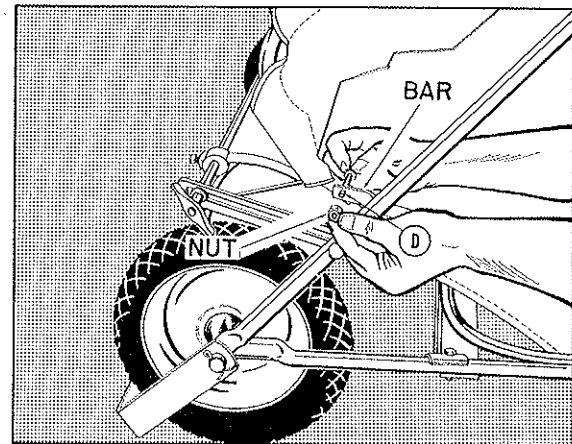

Fig. 3
6. Remove nut at Point D on lower basket frame at front, Fig. 3. Position end of long straight bar (basket brace) onto bolt and replace nut. Assemble opposite bar (basket brace) the same and tighten nuts. (Turn to Basket Assembly, Fig. 3 in parts list, for assembled view).
Maintenance. Place a few drops of oil into the two oilers which are located on each side plate, Ref. Nos. 7 and 17 of Fig. 1, every time the machine is used. The wheels and casters should be lubricated at the same time. A drop or two of oil should also be applied occasionally to the basket pivot block, Ref. No. 26, Fig. 3.
2. Remove cap screws & clamps items 8 & 24 Fig. 3 which hold the brush strips to the reel shaft brackets. Reverse and replace the brush strip and clamps, then retighten the cap screws.